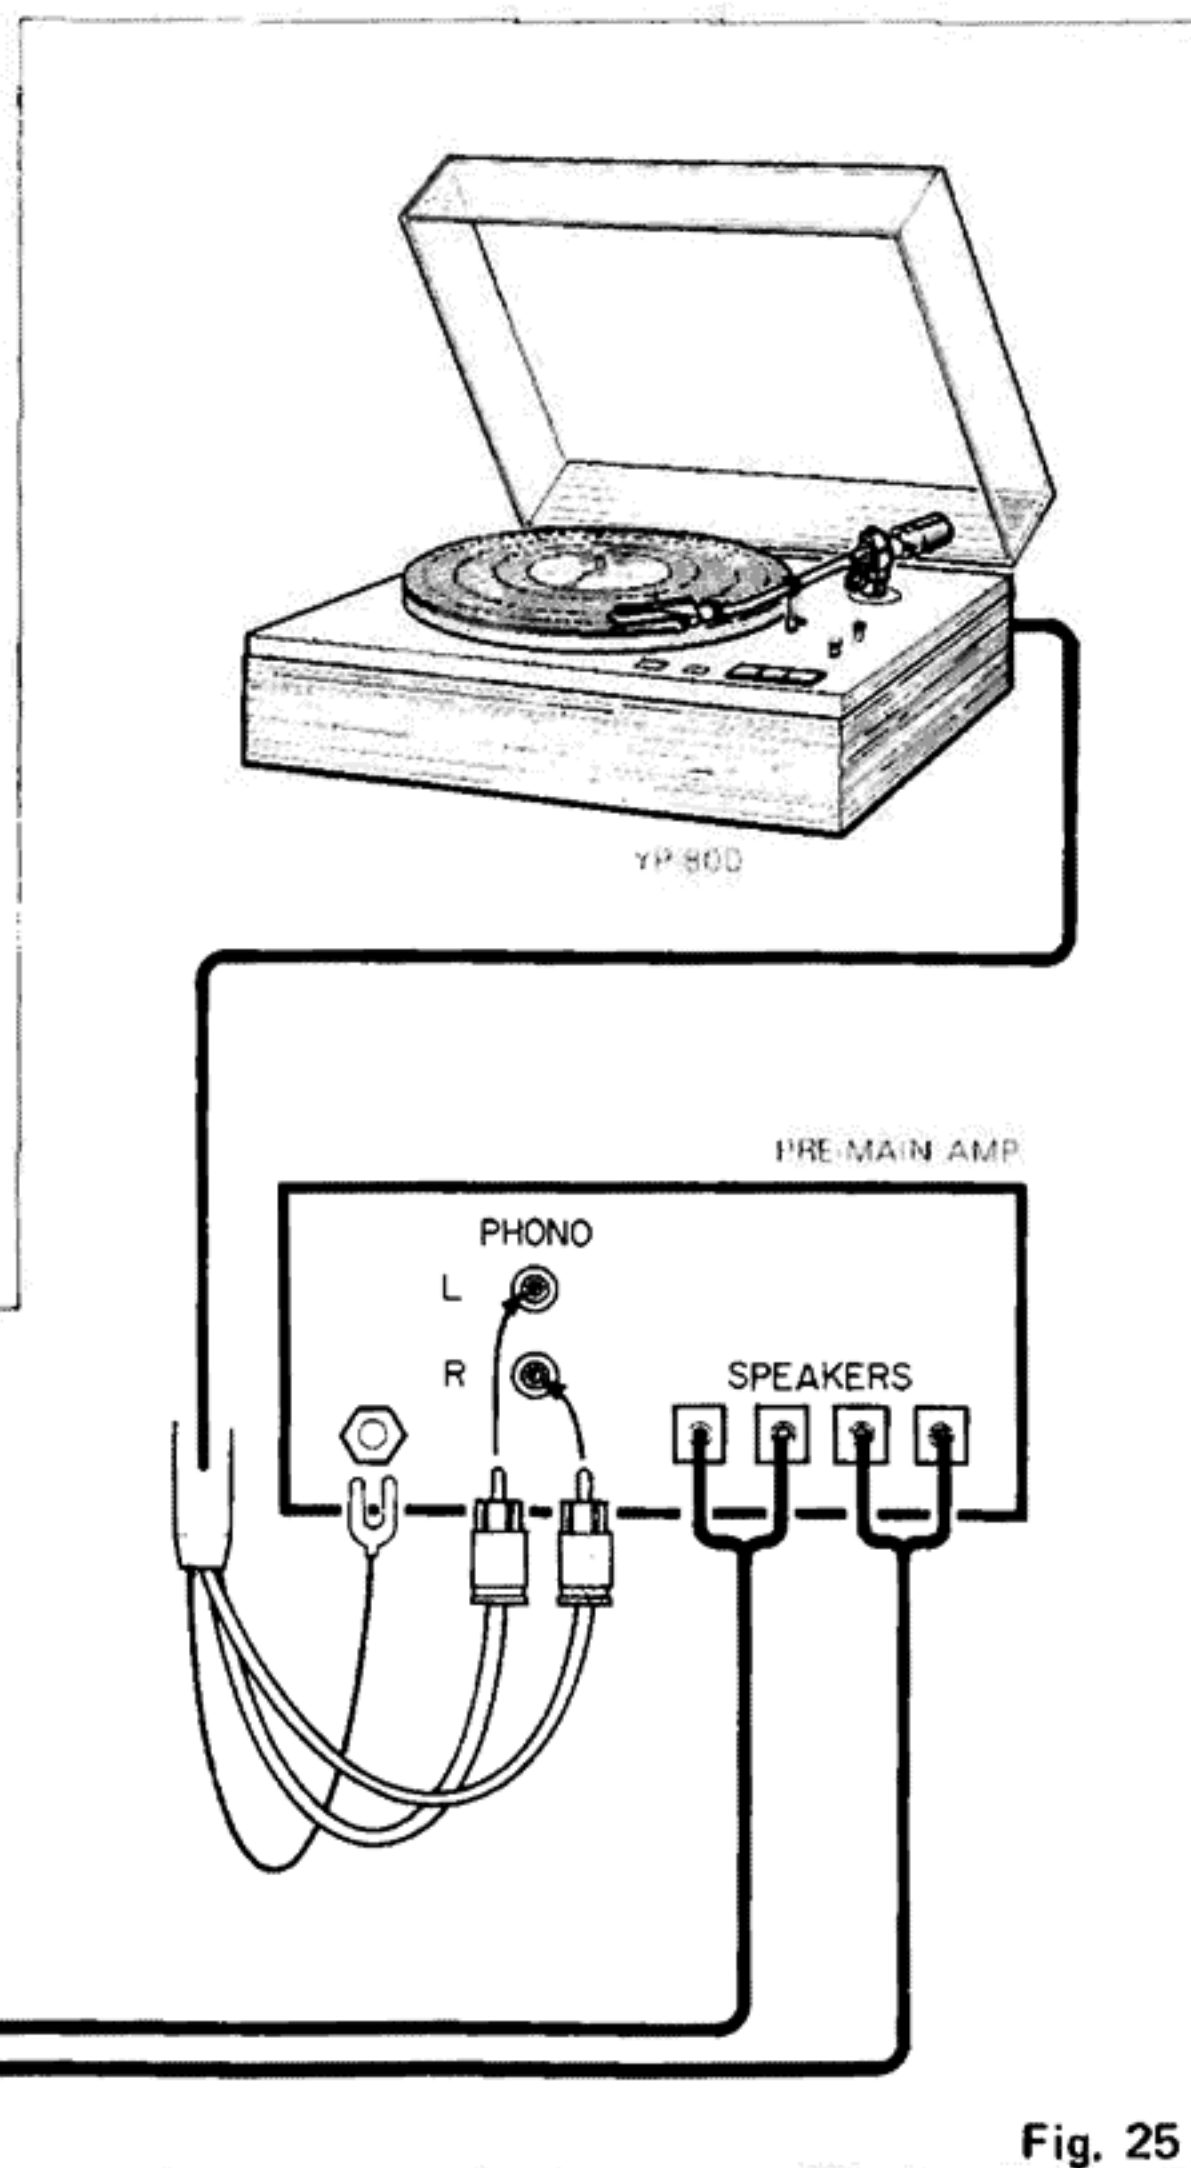

Fig. 25
1. Plug the L and R signal output cords (rear panel) into the Phono jacks of your amplifier. Do not mistake the left lead (white) with the right one (red). See Fig. 25.